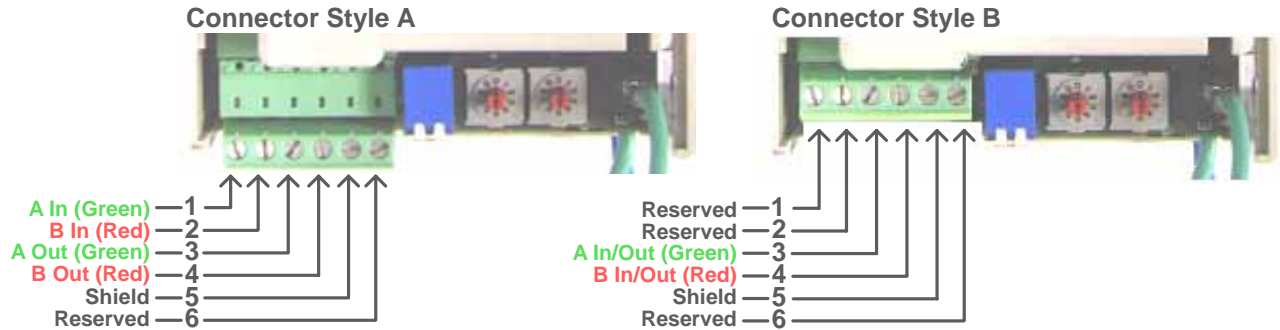

Figure 1.4 – V7 PROFIBUS-DP Option Connections
- 5:** Connect the V7 to the PROFIBUS-DP communication network. Refer to **Figure 1.4 – V7 PROFIBUS-DP Option Connections** and **Table 1.3 - PROFIBUS-DP Cable Connections**
- Connect the PROFIBUS-DP network cable to the V7 PROFIBUS-DP Option. Refer to the appropriate connection drawing in Figure 1.4 below for your connector style.